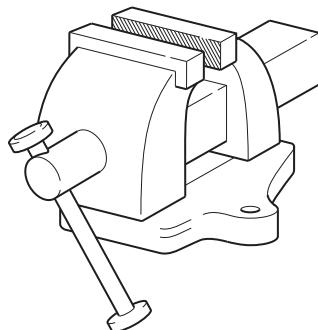

Fig. 2
- (b) Fig. 2 shows an engineer's bench vice made from cast iron.